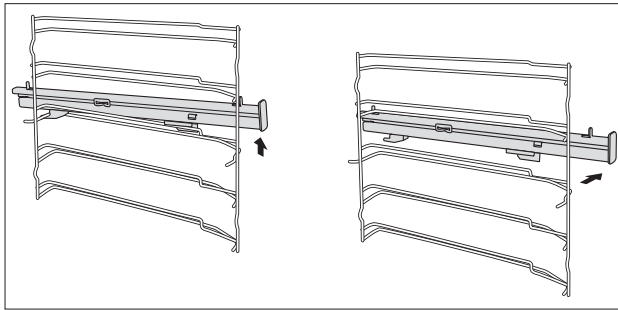

Fig. 1
The telescopic rails allows detraction of the baking pans, and hence ease access when inserting or removing baking pans or when checking food during baking (Fig. 1).
2. Lift one end of the telescopic extension Fig. 1 with force